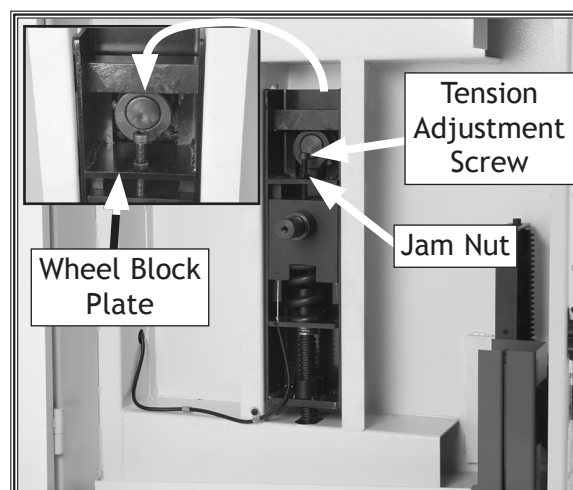

Figure 70. Quick release tension lever adjustment screw.
5. Thread the tension adjustment screw (**Figure 70**) down until it contacts the wheel block plate, then back it off 1-2 turns.